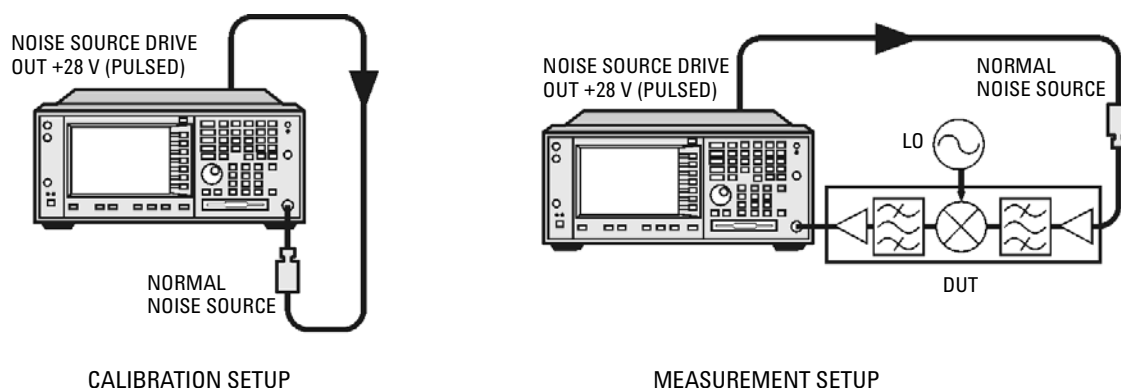

Figure 31 Frequency Converting DUT Calibration and Measurement
- 5 Connect the system and add filtering where required. Figure 31 on page 93 shows the connections.
To connect the noise source and N8201A for calibration, see Figure 31. Connect any After DUT filtering prior to calibration.
A measurement corrected for the noise contributed by the N8201A may now be made. Insert the DUT into the system as shown in Figure 31.